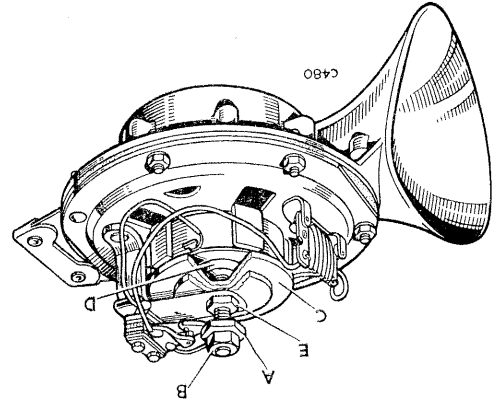

Fig. P-23—Horn adjustment. Clear Hoopers
5. Connect the horn leads to a 12-volt battery and adjust nut (A) until maximum volume is obtained, then lock in position with nut (B). See Fig. P-23
6. Adjust the air gap between armature (C) and the magnet core face (D) to .045 to .050 in. (.10 to 1.25 mm) by slackening nut (E) and turn the armature (C) clockwise or anti-clockwise until the recommended distance is obtained, then tighten nut (E). The current consumption with horn correctly adjusted is 9 amperes.